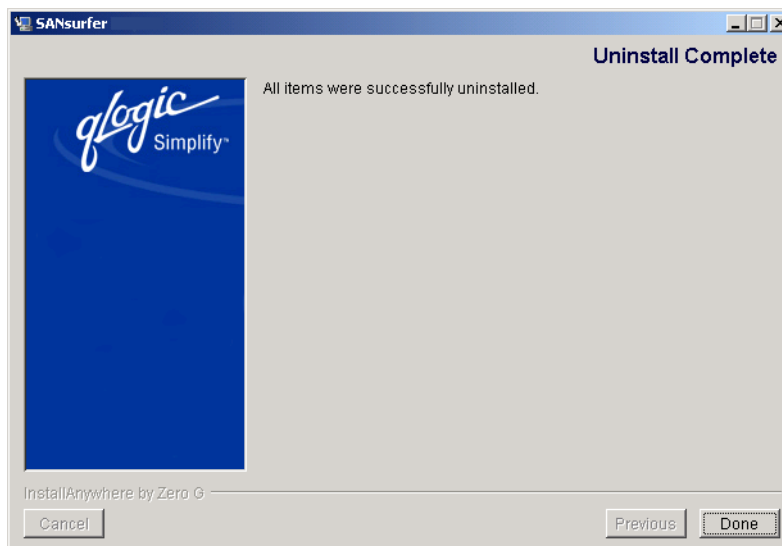

Figure 5-15. Uninstall SANsurfer—Uninstall Complete Dialog Box
4. The **Uninstall SANsurfer—Uninstall Complete** dialog box informs you that the uninstall is complete (see figure 5-15). Click **Quit**.